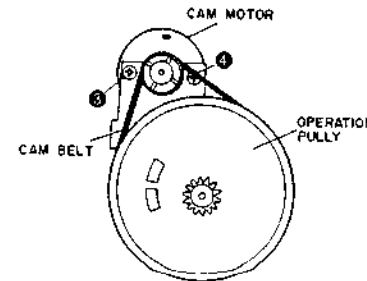

Fig. 3-9
- 5) Remove cam motor securing screws (H) and (I). (Refer to Fig. 3-9.)